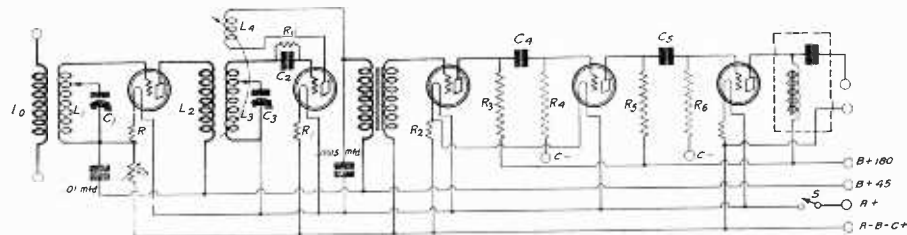

FIG. 705
(1) See Fig. 705 for such a circuit.